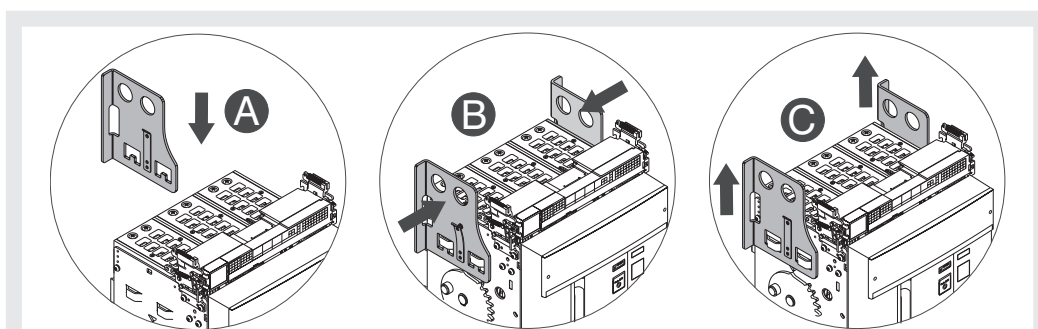

Figure 38
3. Position the lifting plates on the mobile part making sure that the tongue of the plates is latched properly. See Figure 38.